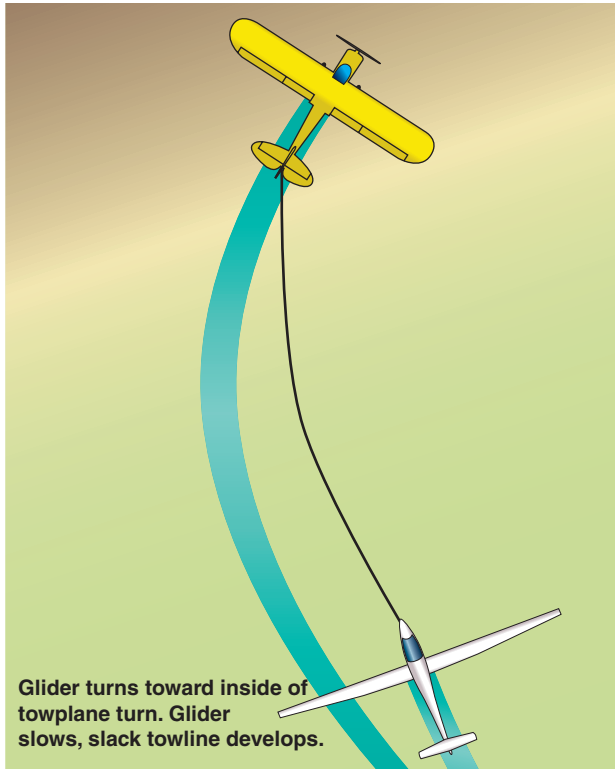

Figure 7-8. Aerotow induced slack towline by turning inside towplane.
If the glider's bank is steeper than the towplane's bank, the glider's turn radius is smaller than the towplane's turn radius. [Figure 7-8 on page 7-8] If this occurs, the reduced tension on the towrope causes it to bow and slack, allowing the glider's airspeed to slow. As a
- Turning the glider inside the towplane turn radius. [Figure 7-8]